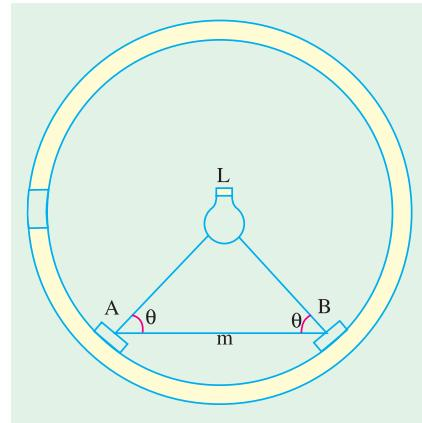

Fig. 49.28
**Theory.** In Fig. 49.28 is shown a light source  $L$  of luminous intensity  $I$  candela and having a total flux output of  $F_L$  placed at the centre of an integrating sphere of radius  $r$  and reflection factor  $\rho$ . Let  $E_A$  and  $E_B$  represent the illuminations at two points  $A$  and  $B$ , each of infinitely small area  $da$  and  $db$  respectively and distance  $m$  apart. We will now consider total illumination (both direct and reflected) at point  $A$ .
$$\text{Now, as seen from Fig. 49.28, } m = 2r \cos \theta$$